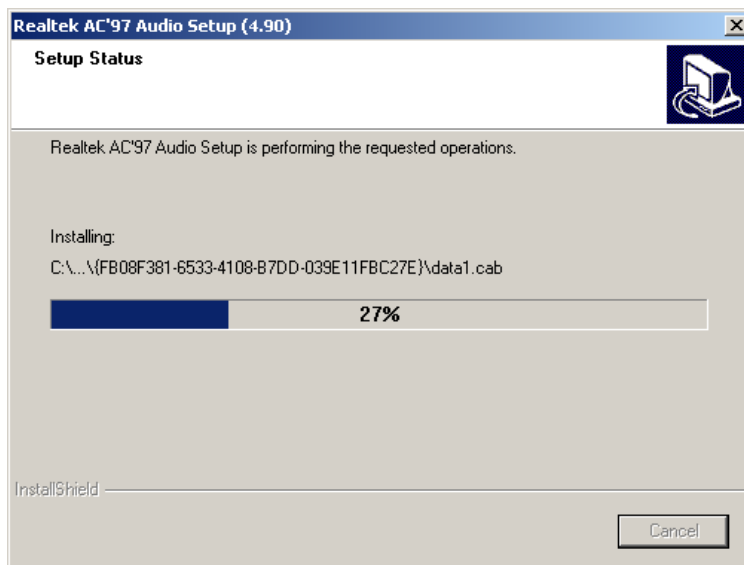

Figure 7-23: Audio Driver Software Configuration
Step 8: InstallShield starts to install the new software as shown in Figure 7-23.